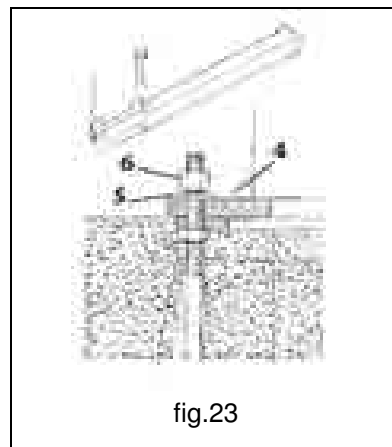

fig.23
3. Set up the column without the arm, lifting it by the upper part with appropriate equipment having put it in the sling as shown, assemble it on the foundation frame positioning the base plate **4** correctly and lining up the nuts **6**, subject to the interposition of the related flat washers **5** (fig. 23).